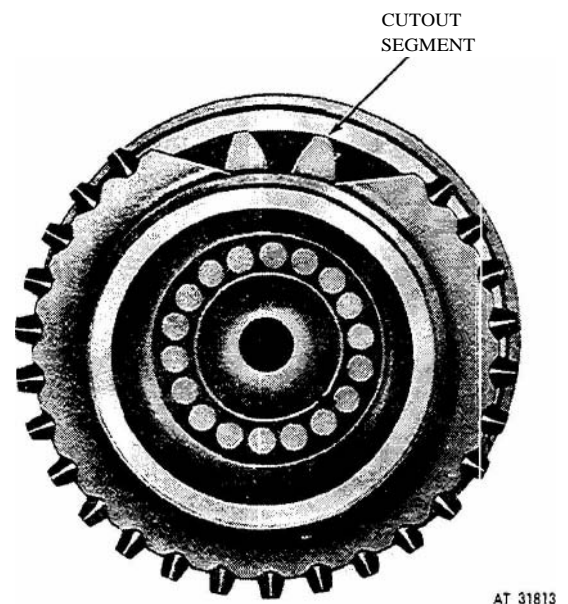

Figure 3-17. Segment index of clutch gear.
(19) Disconnect clutch gear bearing retainer (3) and gasket (8) by removing screw (1) and lock washer (2).
(20) Pry seal (4) from clutch gear bearing retainer (3).
(21) Remove clutch gear bearing assembly (5, 6, and 7) from transmission case (34) by carefully tapping on outer race of bearing from inside transmission case with hammer and soft punch.
**Caution: Index cut out segment of clutch gear with counter-shaft driven gear to obtain clearance for removing clutch gear from transmission case (see fig 3-17).**